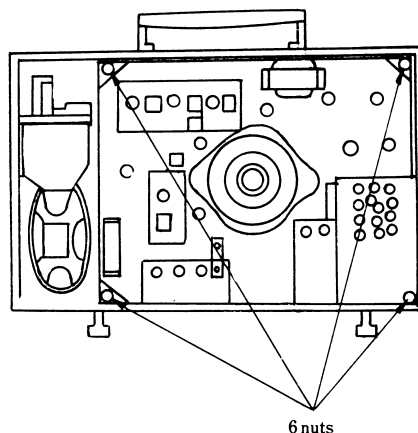

Fig. 2
- (5) Remove the 4 nuts holding the chassis. (Refer to Fig. 2)